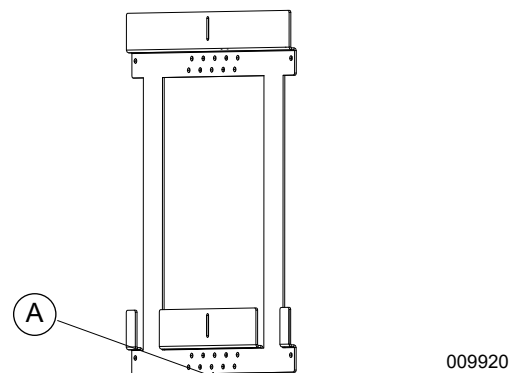

Figure 4-6. Wall Bracket
- See **Figure 4-6**. Bottom edge (A) is 29-5/8 in (752 mm) off the floor for installations that are not elevated. See the following procedure for elevated installation or use the to-scale template printed on the inside of the battery enclosure packaging.